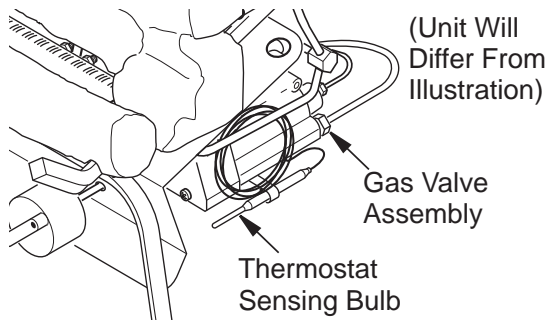

Figure 50 - Location of Gas Valve Assembly and Thermostat Sensing Bulb
1. Locate the gas valve assembly and thermostat sensing bulb (see **Figure 50**).